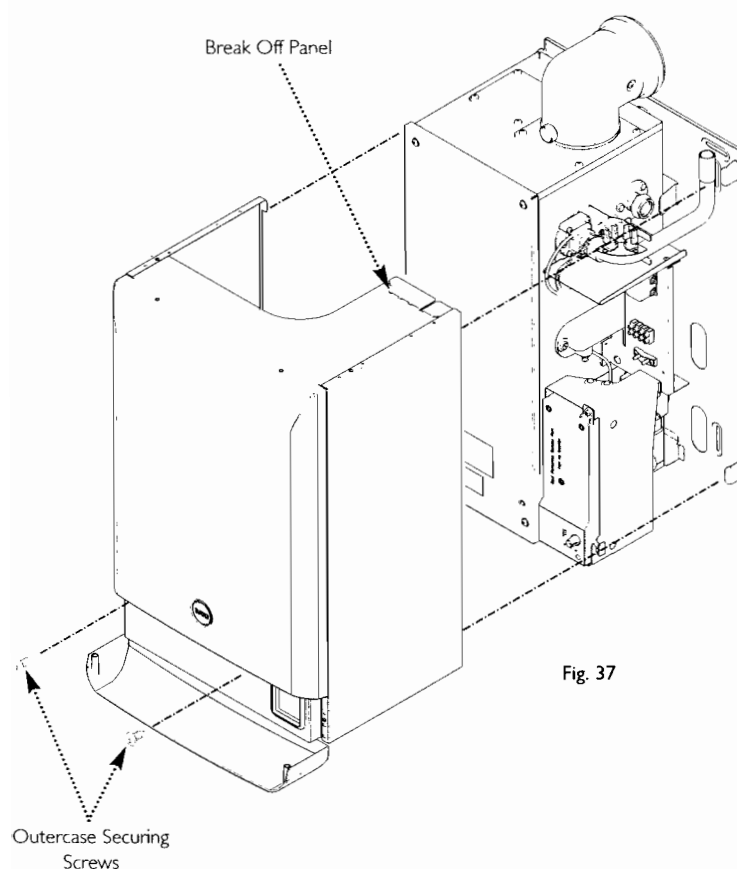

Fig. 37
1. Position the outercase over the boiler engaging the lugs in the side flanges over the hooks on the wall plate. Break off top or bottom panel as required to accommodate pipework runs (Fig. 37).
2. Using the two screws supplied in the kit, secure the outercase to the combustion box (Fig. 37).